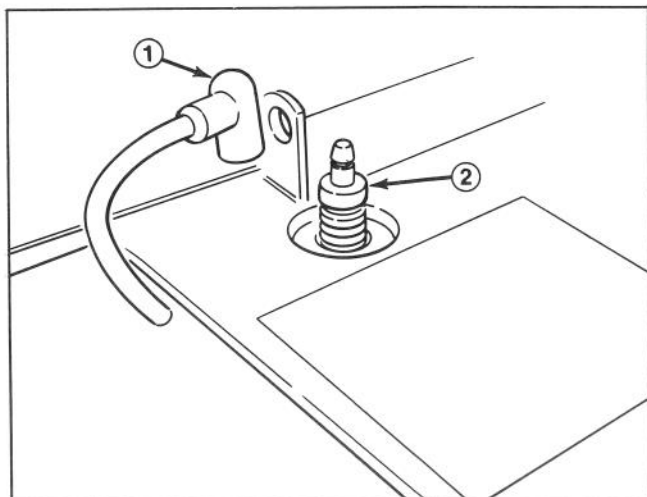

Figure 33
1. Clean area around spark plug so dirt does not fall into cylinder when plug is removed (Fig. 33).
2. Pull wire off spark plug and remove plug from cylinder head (Fig. 33).